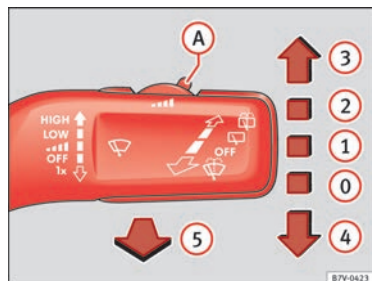

Fig. 65 Using the windscreen wipers.
| 1 |      | Intermittent windscreen wipers wipe. Using the control ⇒ fig. 65 A adjust the interval (vehicles without the rain sensor), or the sensitivity of the rain sensor. |
- Press the windscreen wiper lever downwards briefly ⇒ fig. 65 ④.